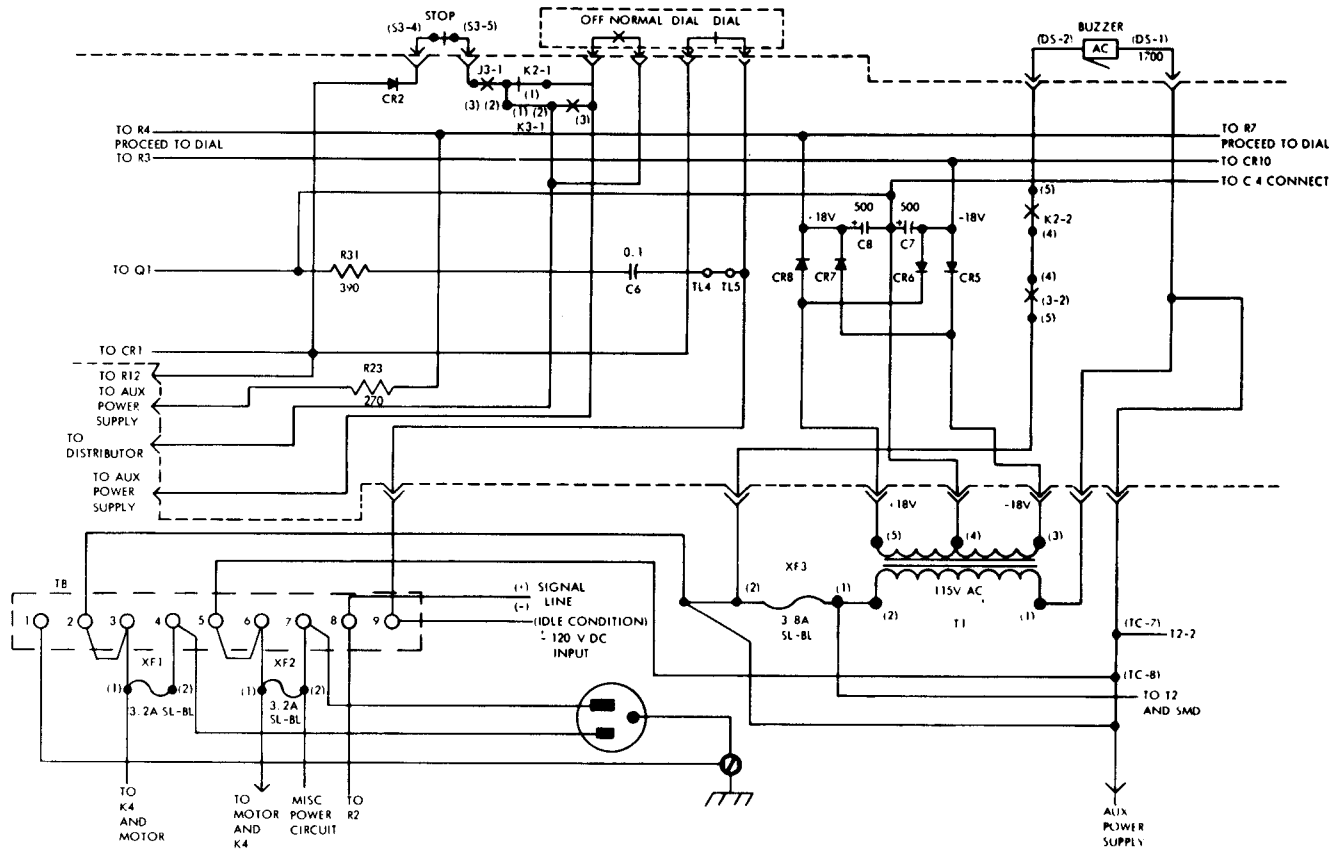

Figure 1 - Power Supply Circuit
3.02 A fused power supply circuit (Figure 1), operates on 117 volts ac  $\pm 10$  percent at 60 hertz  $\pm 1/2$  hertz, and a power input of 12 watts. The power supply ground is floating with respect to the input signal line; that is, it is not at earth ground. Therefore, the center tap of the transformer is  $\pm 120$  volts from earth ground in neutral signaling. The polar adapter, on teletypewriters so equipped, also contains a power supply. This power supply, as well as the one found on the call control unit, uses an earth ground.